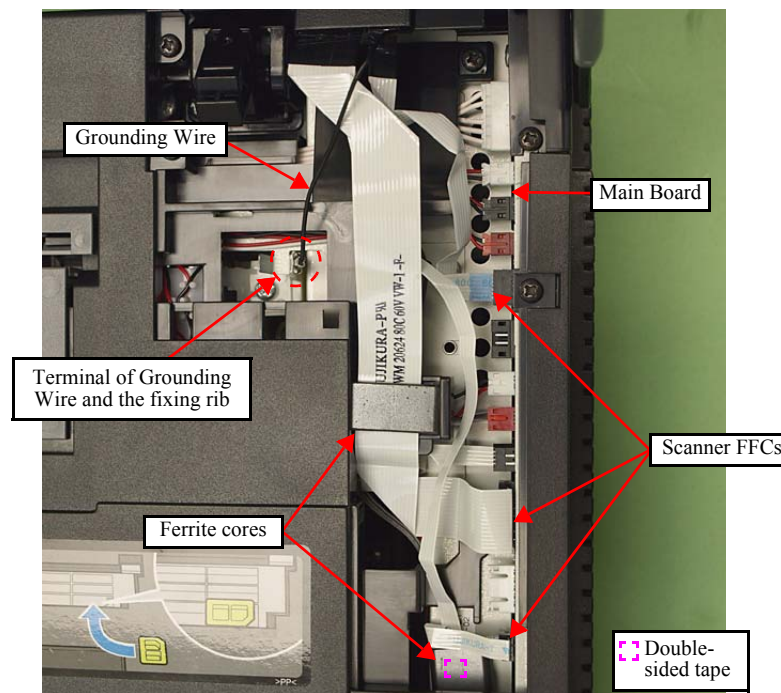

Figure 4-6. Removing the Scanner Unit (1)
2. Disconnect the Scanner FFCs (x3) together with the Ferrite Cores (x2) from the Main Board. (See Fig. 4-6.)
- Make sure to insert the terminal of the Grounding wire to the fixing rib of the Frame. (See Fig. 4-6.)